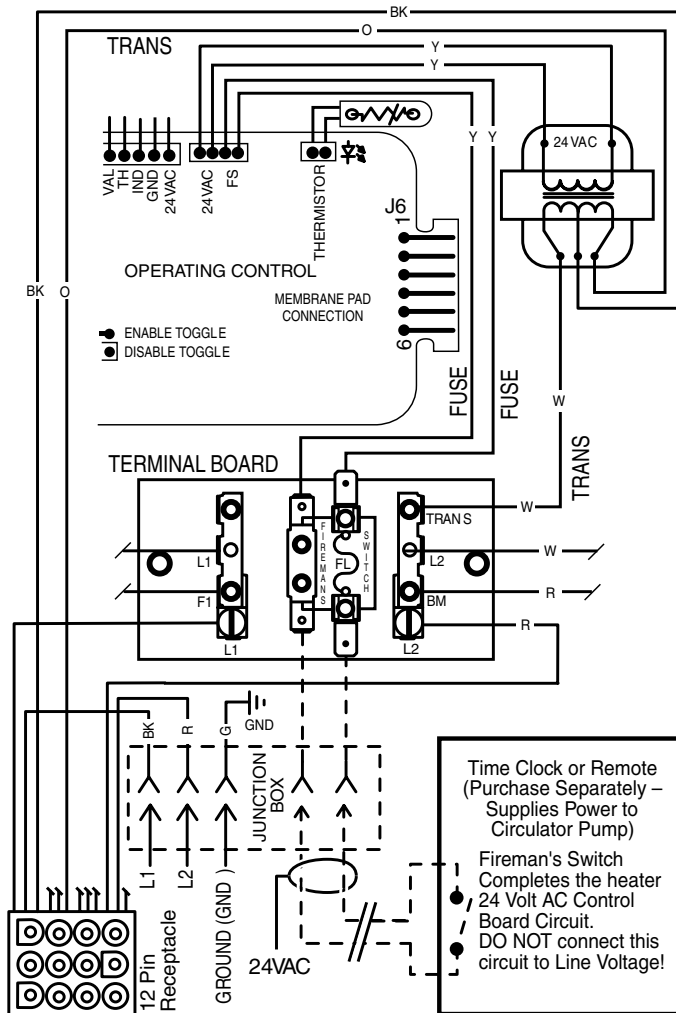

Figure 25.
- Move jumper (as show in Figure 25) to enable external control and to disable the heater membrane pad’s “Pool POOL/SPA buttons (the HEATER (ON/OFF button control panel remains functional).